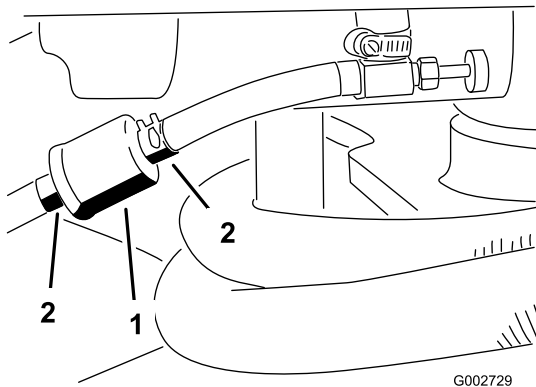

Figure 30
1. Close the fuel-shutoff valve, loosen the hose clamp on the carburetor side of the filter, and remove the fuel line from the filter (Figure 30).